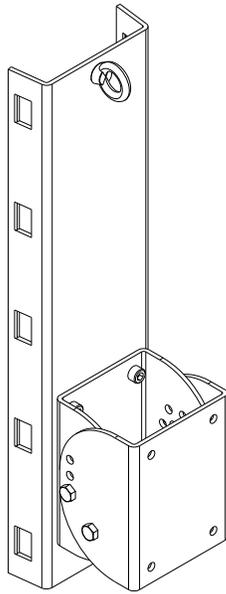
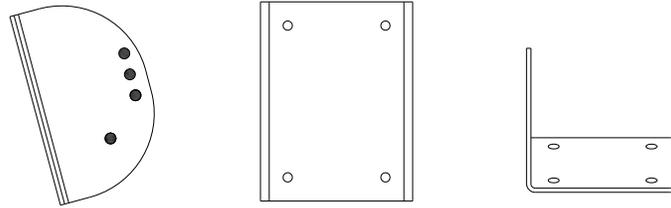

Figure 1
Figure 2
Figure 1 represents the isometric and top views of the pole bracket, including the loudspeaker bracket section.
The loudspeaker bracket is shown separately in Figure 2.
1. Mount the pole mount section (see figure 1) of the bracket to the pole at the desired height on the pole. The loudspeaker bracket shown in Figure 2 should be removed prior to hanging the pole mount section. The bracket is mounted to the pole using BAND-IT stainless steel bands. **DO NOT SUBSTITUTE** bands of other material or other widths! There are **FIVE** locations on the pole bracket for bands. **ALL FIVE LOCATIONS MUST BE USED**. Figure 4 illustrates the locations for the stainless steel band clamps.